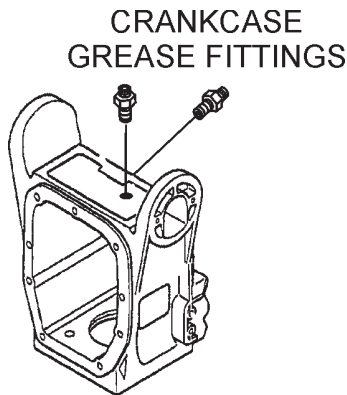

Figure 19. Grease Fittings (Crankcase)
2. There are 2 grease fittings (Figure 19) that require lubrication of the crankcase. Lubricate these fittings as outlined in the maintenance section of this manual.
- The rammer **crankcase bearings** (Figure 19) should be lubricated with five shots of grease with a hand grease gun after each eight (8) hours of use.